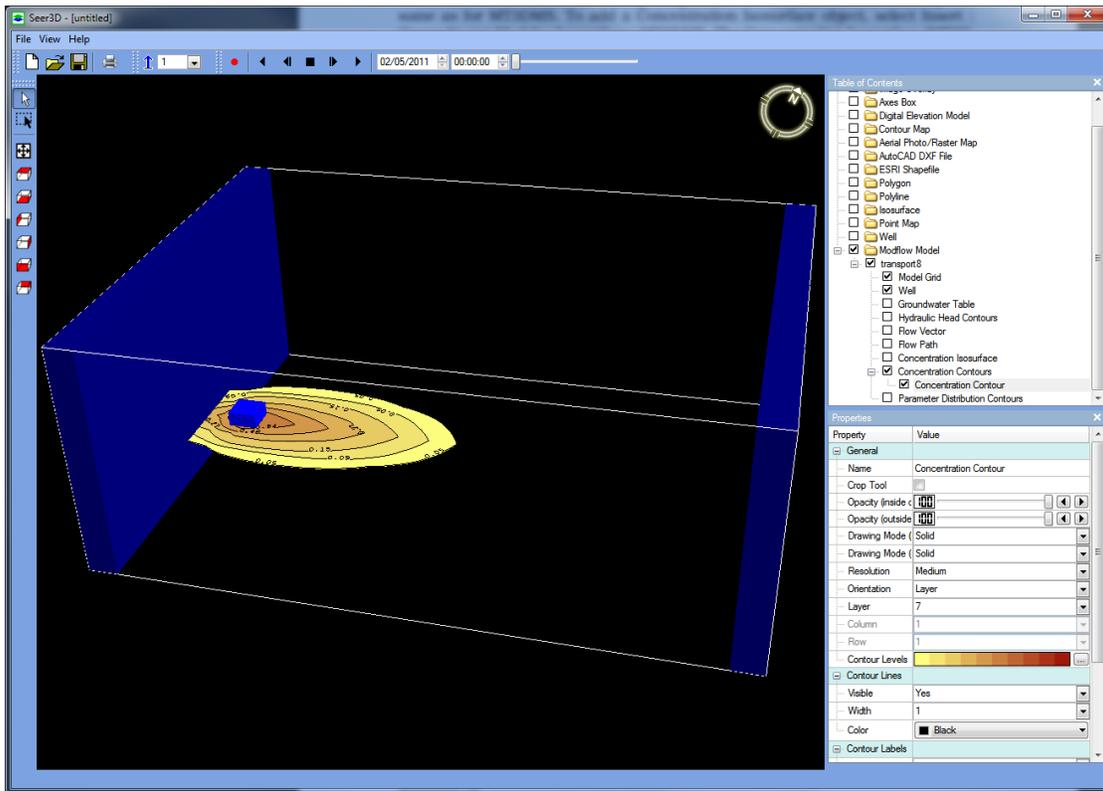
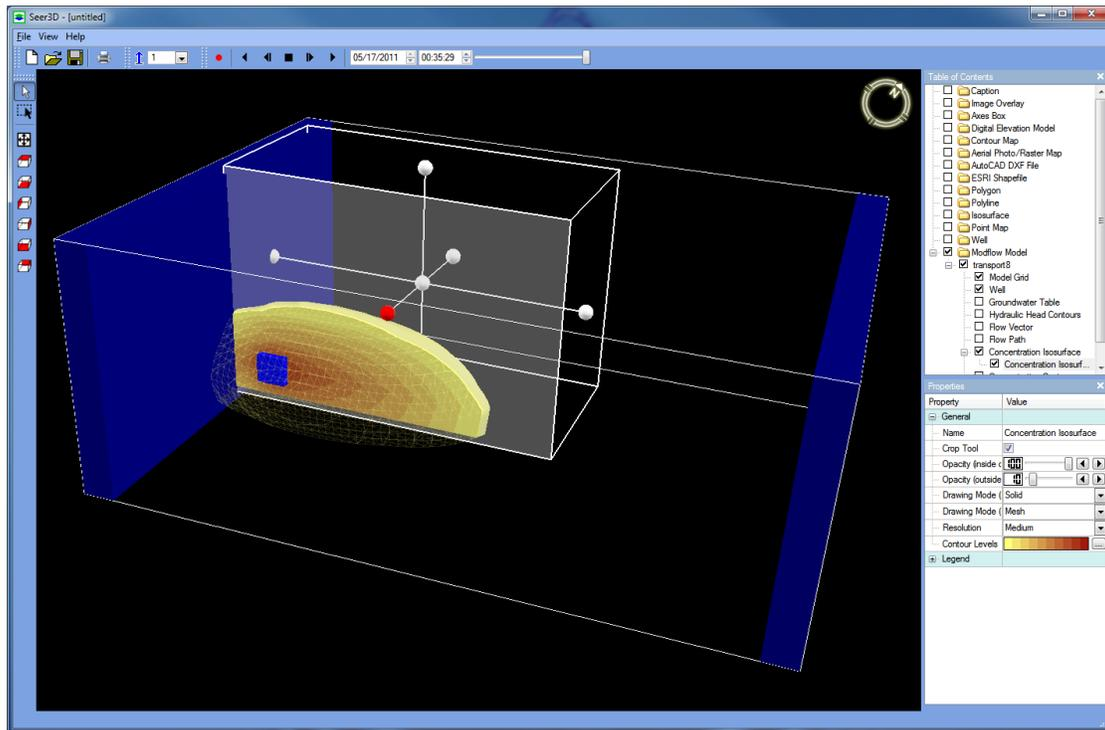

Figure 3.9. Concentration contours depicting results of a MT3DMS model
Figure 3.10. Concentration isosurface and contours based on the model results. The contours are automatically created on the face of the Crop Tool.
2. Select *Create New Object* from the popup menu. The concentration contours will be created with the default settings and a new item will be added to the *Concentration Contours* folder (Figure 3.9).
2. Select *Create New Object* from the popup menu. The concentration isosurface will be created with the default settings and a new item will be added to the *Concentration Isosurface* folder (Figure 3.9). In much the same way as described in Section 2.4.3, the Crop Tool, opacity values, and drawing modes can be used to create various display effects. Figure 3.10 illustrates an example where the isosurface of a model is cropped to reveal the concentration distribution on a vertical cross-section along a face of the crop tool.